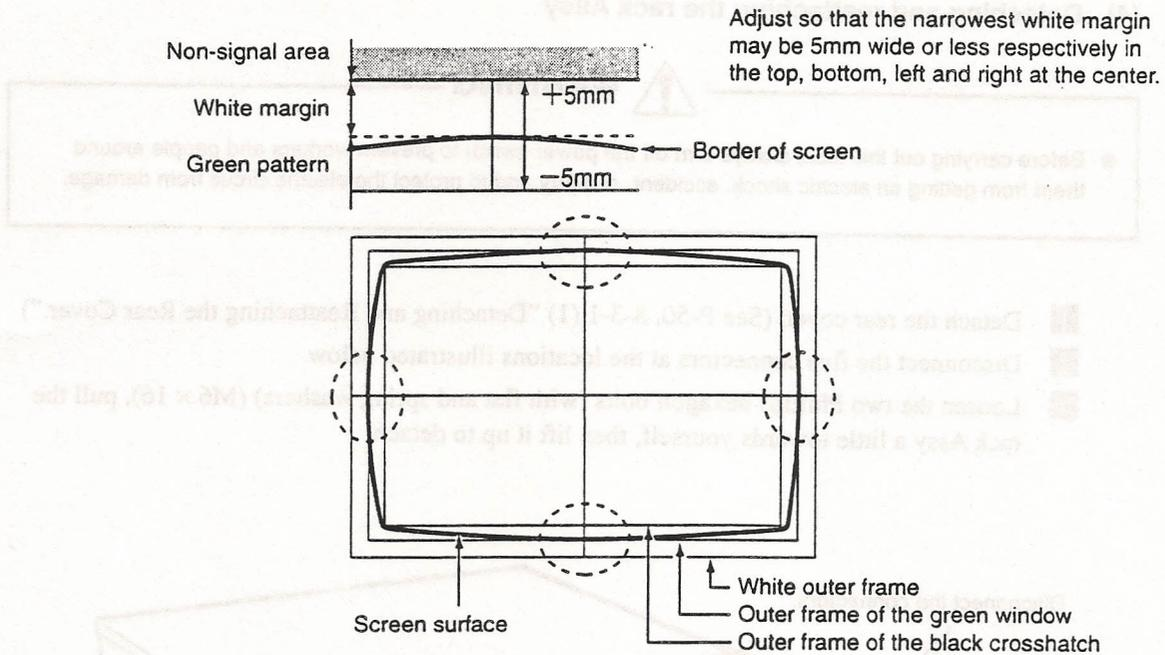

Fig. 3 Adjustment of screen size and position
1. While in the monitor test screen, display VIEW ANGLE ADJUST (CRT) (Fig. 3 "Adjustment of Screen Size and Position"). (See P-38, 7-4-5 "MONITOR TEST.")
2. Center the picture size. Adjust the ④ H.POSI (horizontal position) and ⑥ V.POSI (vertical position) alternately so that the center of the cross of the picture area comes approximately to the middle of the monitor surface.
- Adjust ③ H.SIZE (horizontal size) so that the screen end touches the border of the green and the white patterns at the center of the right/left side of the screen.
- Perform fine adjustment on ③ and ④ alternately so that the difference between the right and left margins should be 5mm or less.
- Adjust ⑤ V.SIZE (vertical size) so that the screen end touches the border of green/white pattern at the center of the top/bottom of the screen.
- Perform fine adjustment on ⑤ and ⑥ alternately so that the difference between the top and the bottom margins should be 5mm or less.